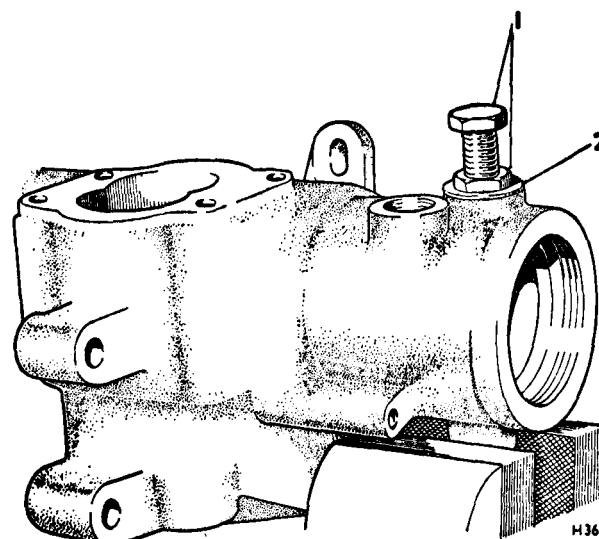

FIG. N27 REMOVING HOSE CONNECTOR SEAT WITH BOLT
3. Insert a $\frac{5}{16}$ in. threaded bolt with a nut and suitable flat washer into the tapped hole (see Fig. N27).